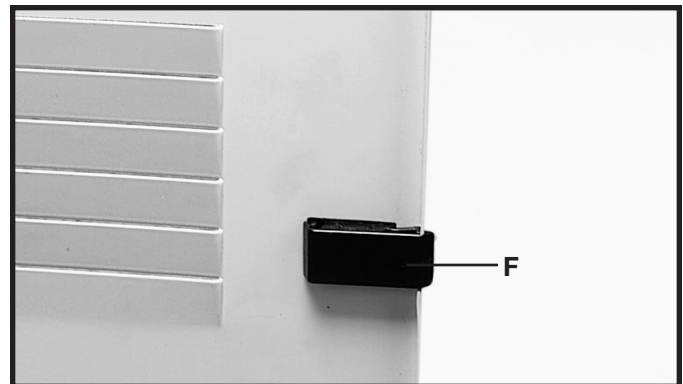

Fig. 21
9. Insert the door latch (F) Fig. 21, from the outside, through the hole in the door.